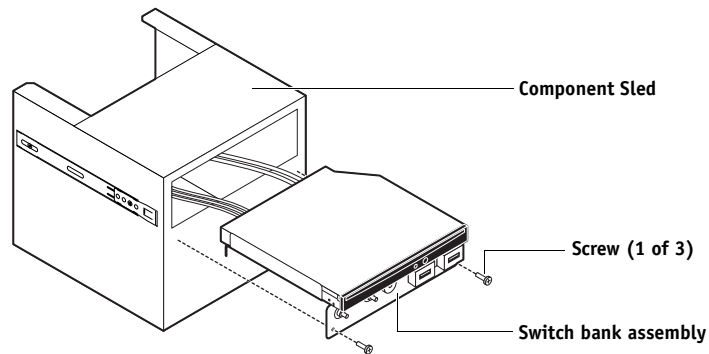

FIGURE 38: Removing/replacing the switch bank assembly
2. **Install the switch bank assembly in the Component Sled (see Figure 38).**